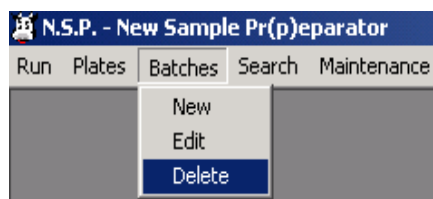

Fig. 6.3-1 : Delete a reagent batch
(1) Select "Delete" from the "Batches" menu (Fig 6.3-1).